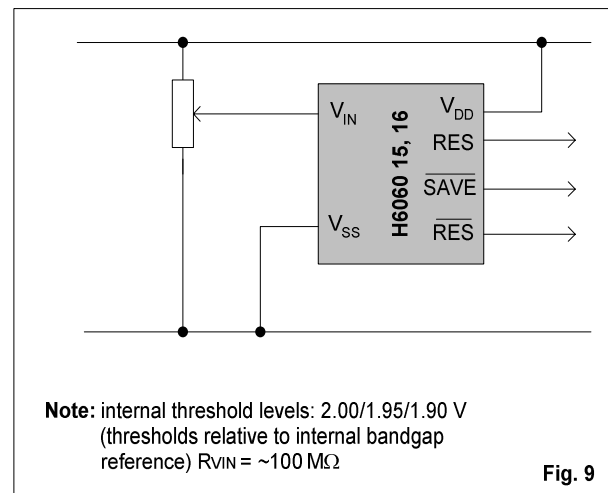

Fig. 9
**Version 15, 16:** monitor the regulated voltage. They are suited to applications where the unregulated voltage is not available. (The tolerance is  $\pm 10\%$ , see table 4. For tighter tolerances, trimming can be used, see Fig. 9).